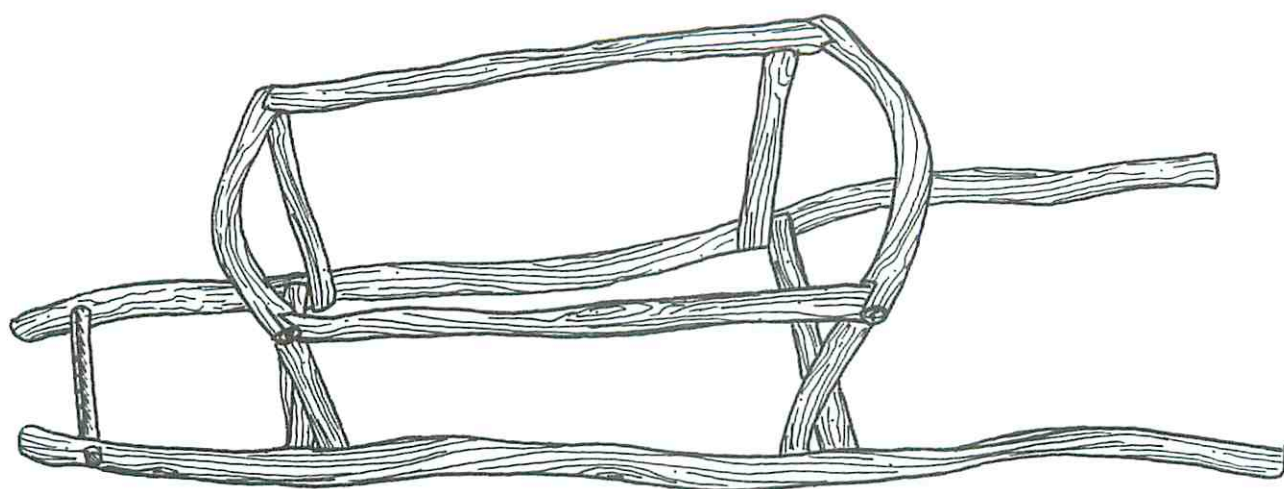

Figure 2
You should have a framework of four uprights. These can now be topped with the rail pieces (D). The two side rails of the basket should be straight. The front and back rails, however, can either be straight or gently curved – your choice. I find the curved pieces look a little nicer. Attach the side pieces first, then the front and back ones. See Fig. 2.